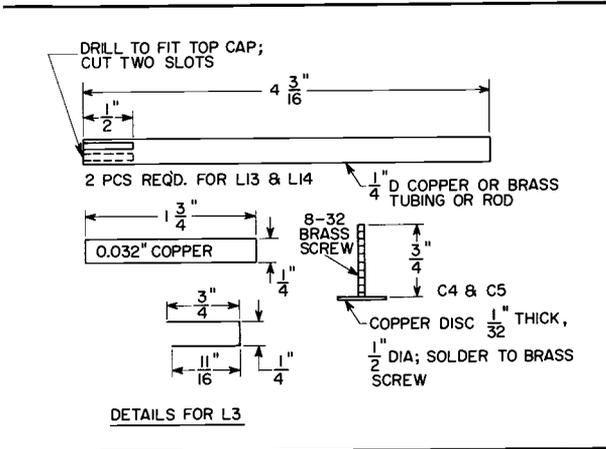

Figure 3: Detailed view of variable capacitors and inductors in rf stages.
- C₄, C₅—See Figure 3
- L₃—See Figure 3
- L₁₃, L₁₄—See Figure 3
The next nuvistor triode stage doubles the frequency to 417.6 megacycles. The plate-circuit inductance (L_9) is a short piece of copper bent into the shape of a "U." Construction details of this tank circuit and the other coil assemblies are shown in Figure 3.